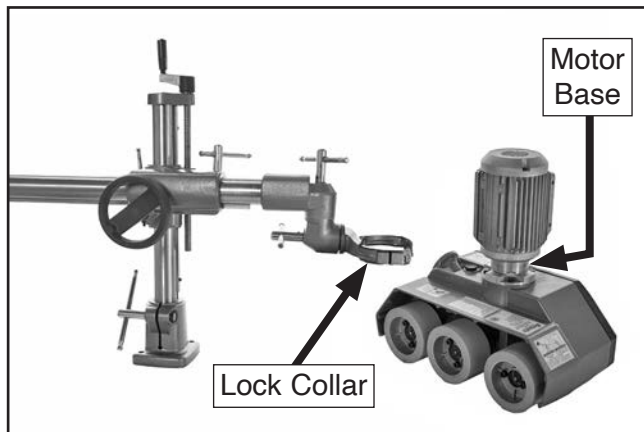

Figure 10. Lock collar aligned with motor base.
5. Loosen travel locks and rotation lock, then use horizontal handwheel and vertical travel handle to align elbow-joint lock collar with motor base (see **Figure 10**).